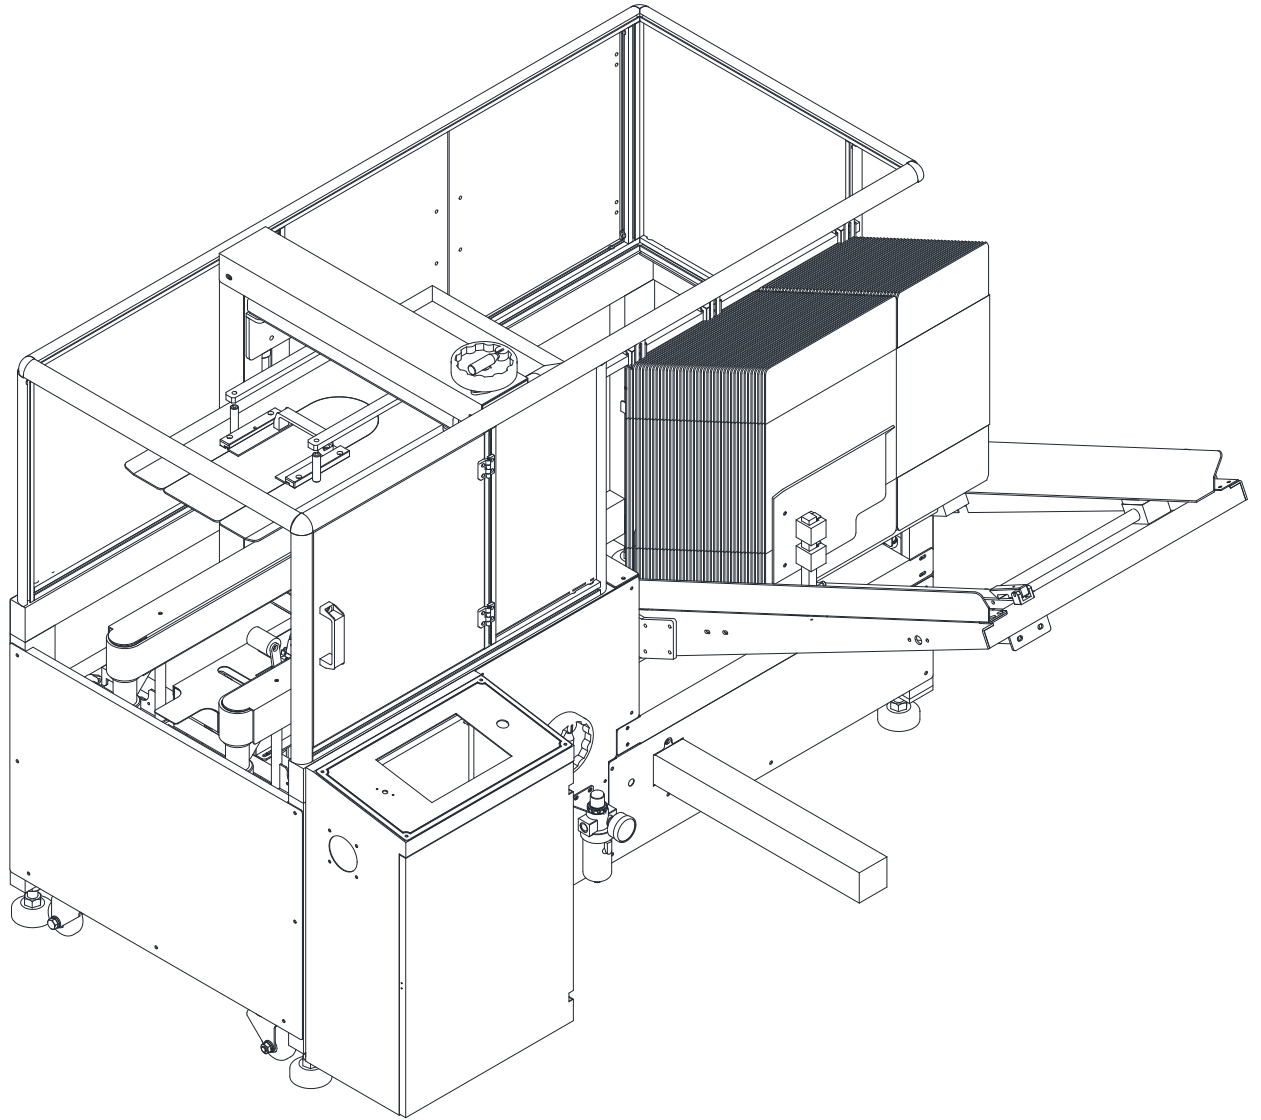

Figure 8
8) Finally put the unmolded carton into the trough and lay down the push plate, so far, the pre-boot mechanical adjustment has been completed. As shown in Figure 8: